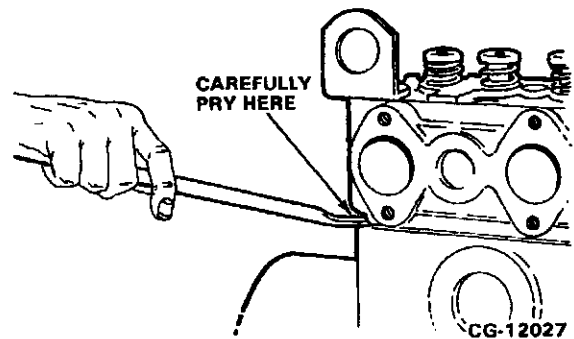

Figure 4.8. Break Cylinder Head Gasket Seal
6. Using a small pry bar, carefully pry the head loose from the gasket so the cylinder head will lift off easily. Refer to Figure 4.8.